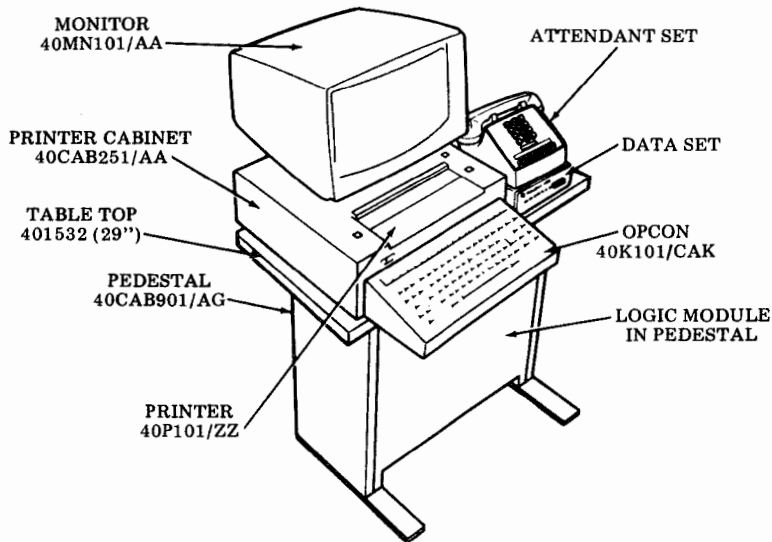

Fig. 7
3.06 Keyboard Display Printer (KDP) Station (Fig. 7)